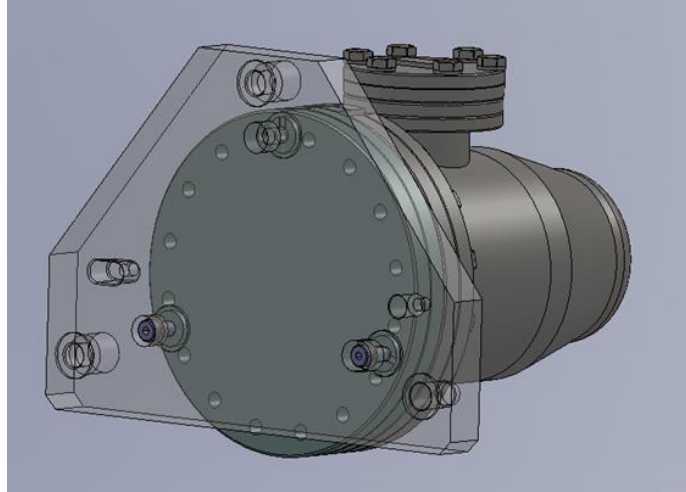

Figure 160: Horizontal L4C on D0902283 Interposer Plate
- Insert all the screws from below through D0902283 Interposer Plate into D047823 L4C Base Plate Flange as shown on Figure 160.
- Repeat this step for the (2) other D047820 L4C Pod Assemblies.